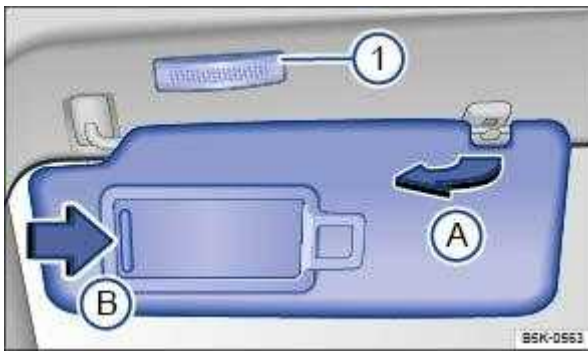

Fig. 89 In the front headliner: sun visor.
Pulled out of the bracket and swung over towards the door ⇒ Fig. 89 (A).
When you open the cover ⇒ Fig. 89 (B), the lamp ⇒ Fig. 89 (1) lights up.